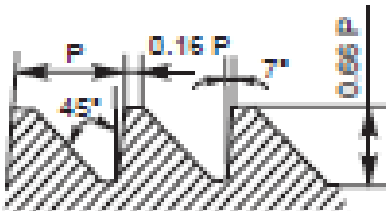

Figure 7
32. Identify the type of thread in figure 7 below.